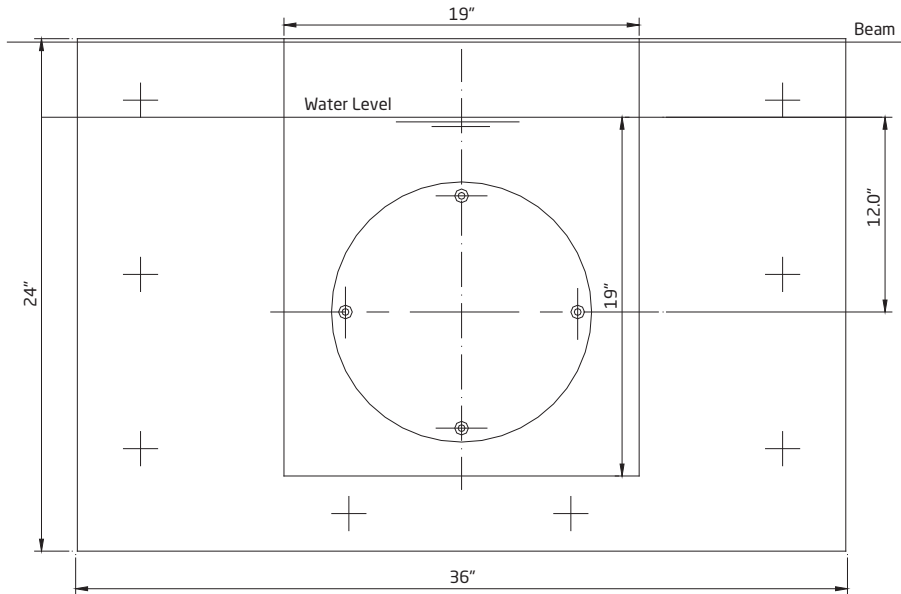

Figure 9
- One (1) piece of plywood 2' x 3' x 1/4"
- Eight (8) Lag screws 1/4" x 1-1/2" (minimum)
- Eight (8) Plastic lag shield anchors
4. Taking the 2' x 3' x 1/4" plywood, set its top edge even to the cap of the pool wall. In some cases a larger piece of plywood maybe needed to cover the hole completely. If plywood covers the hole completely, mark the water line on the plywood. From this line, layout and drill holes in plywood for the four (4) M8 x 80 gunitite cover studs (part# 31) and the eight (8) 1/4" lag screws. (See Figure 9)
5. Insert the four (4) M8 x 80 gunitite cover studs (part# 31) in the jet housing; one on each end of the vertical center line and one on each side on the horizontal center line insert gasket with knobs (part# 26). Place gunitite cover on studs covering the inside of the jet housing. Next place plywood on the studs and secure to the jet housing with four (4) M8 stud washers (part# 32) and four (4) M8 gunitite cover stud nuts (part# 33). The discharge connection should be located directly **ABOVE** the suction connection.
6. Now place this assembly into position in the pool wall and align the water line marks. With a level on the two (2) horizontal studs, level the assembly and mark the eight (8) holes for the 1/4" lag shield anchors. Remove assembly and drill holes for lag anchors. Install lag shield anchors. Reposition the assembly and secure it to the lag shield anchors with 1/4" lag screws. It is best to check with a level before tightening the lags down. Back fill and form the outside of pool wall.